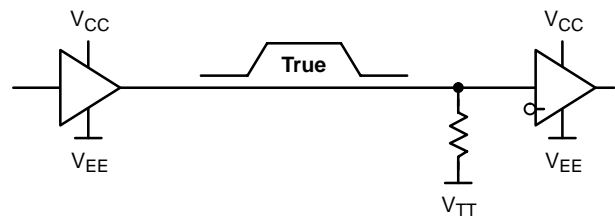

Figure 2. Standard Single-Ended ECL Interconnect
Signals may be imported as full differential lines or as a Single-Ended (SE) line interconnection. The SE interconnection may be seen as a special variation of the typical differential interface using only one driver source trace line. This single trace line drives a (Base) input pin of the receiver, as shown in Figure 2. Although a receiver may present only a single, dedicate SE input pin instead of a differential input pair of pins, such a receiver still would have a differential structure with the unavailable input controlled by internal circuitry.
A device may have a dedicated single-ended input, having only one of the internal differential base inputs pinned out of the package, available to be driven by a signal. Internal circuitry connects a V_{BB} voltage reference to the other internal, non-driven input base node of the differential buffer gate, as shown in Figure 2. This internal, fixed reference voltage, V_{BB} , is maintained at the midpoint between V_{IL} and V_{IH} for dedicated single-ended inputs. The internal V_{BB} is derived from referencing the V_{CC} supply and tracks changes 1:1 in this supply. Noise and drift in V_{CC} will inject jitter and phase noise directly into the signal.